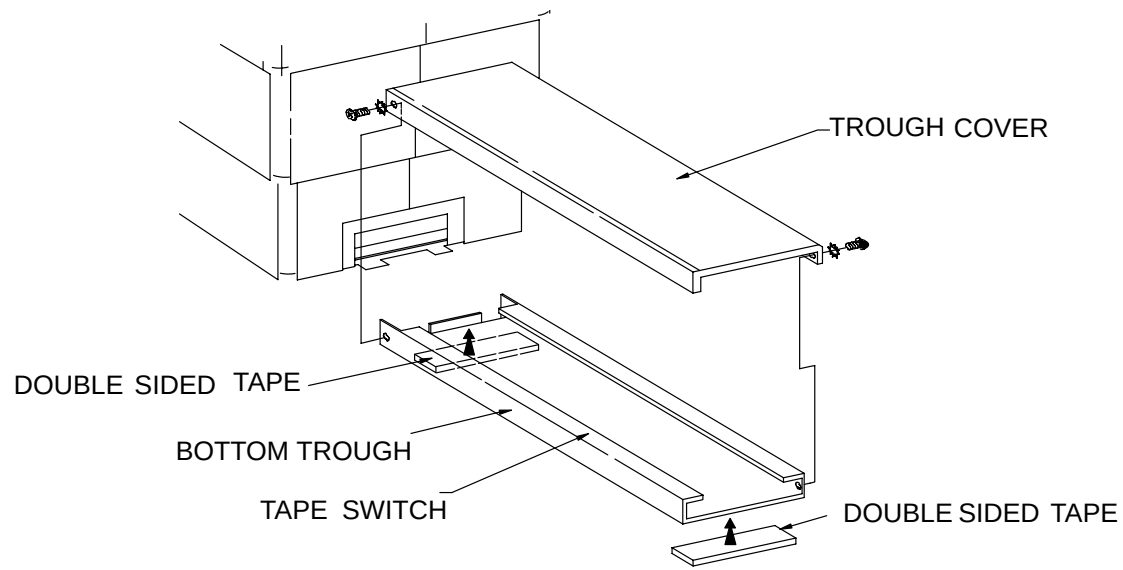

FIGURE 189 FOOT SWITCH COVER
39. Remove the two screws and Washers that attach the Foot Switch Cover. Firmly grasp the Foot Switch with both hands and pull the Cover straight up. See Figure 189.